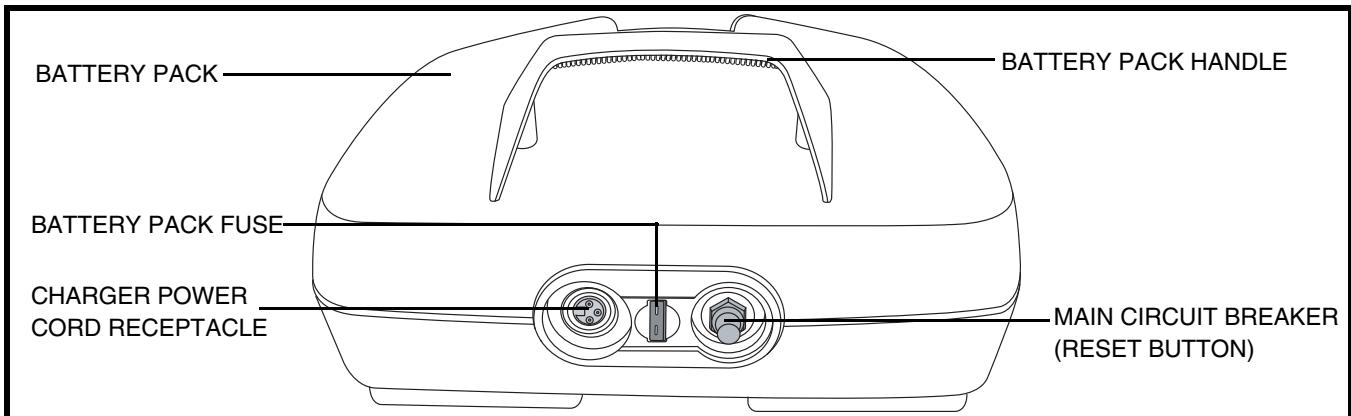

Figure 7. Battery Pack
Your Travel Scooter is equipped with an innovative, easy to remove battery pack. A handle on the top of the battery pack makes it easy to lift the pack off of the Travel Scooter with one hand. The battery pack contains two batteries, the charger power cord receptacle, the main circuit breaker (reset button), and the battery pack fuse. See **figure 7**.
- Ensure that the fuse on the battery pack is in working condition. See **figure 7**.